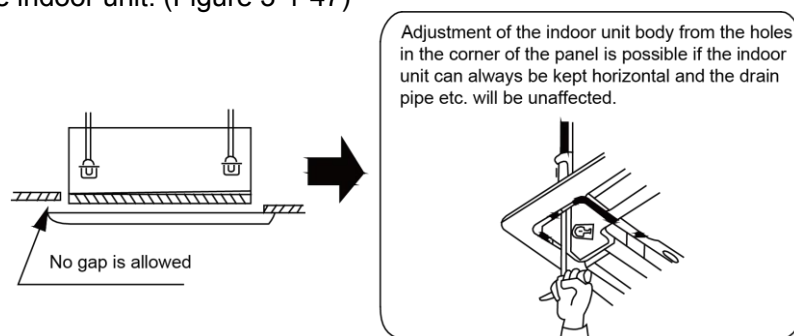

Figure 3-1-47
(8) If gap still exists between ceiling and decoration panel after tightening the screws, readjust the height of the indoor unit. (Figure 3-1-47)